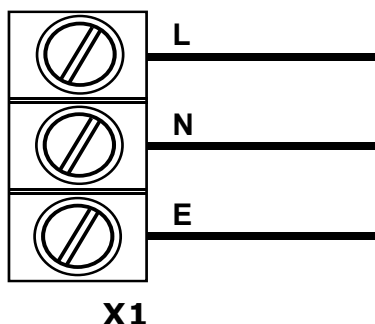

Figure 3. Connecting External AC Power via Connector X1.
If the ME5-T is an AC power version (ME5-T-A-), then the ME5-T has a 240 vac transformer fitted internally, and a power cord is supplied. The external mains power cables (Active, Neutral and Earth) are connected through the second cable entry to the PCB connector X1, as shown in Figure 3 below.
- an external AC supply (to Connector X1, shown in Figure 3 on page 5) . This will then provide at pin 1 of Connector X2 an unregulated 10VDC for an 18mA load.